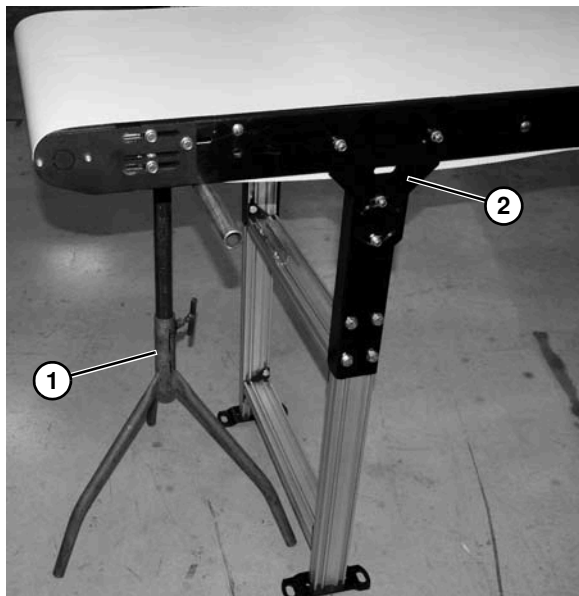

Figure 66
2. Place temporary support stands (**Figure 66, item 1**) at both ends of the conveyor.
3. Remove mounting brackets (**Figure 66, item 2**) from one side of conveyor.